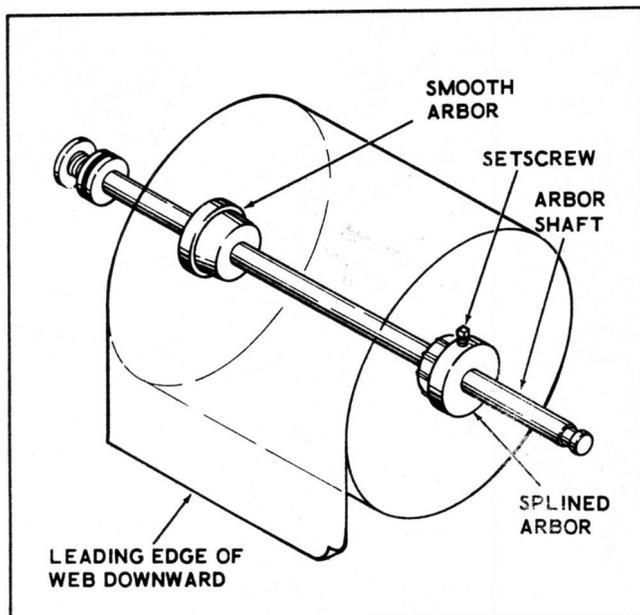

Figure 3-6. Web Roll and Arbor Shaft
a. Position the smooth arbor (Figure 3-6) on the arbor shaft toward the brake end and tighten setscrew. The smooth arbor is always placed to the left or rear of the machine as viewed facing the feed roll end. The tapered portion of the arbor is to the right. Position the web roll so the leading edge faces toward you and downward. Insert the arbor shaft and smooth arbor into the web roll core from the left side.